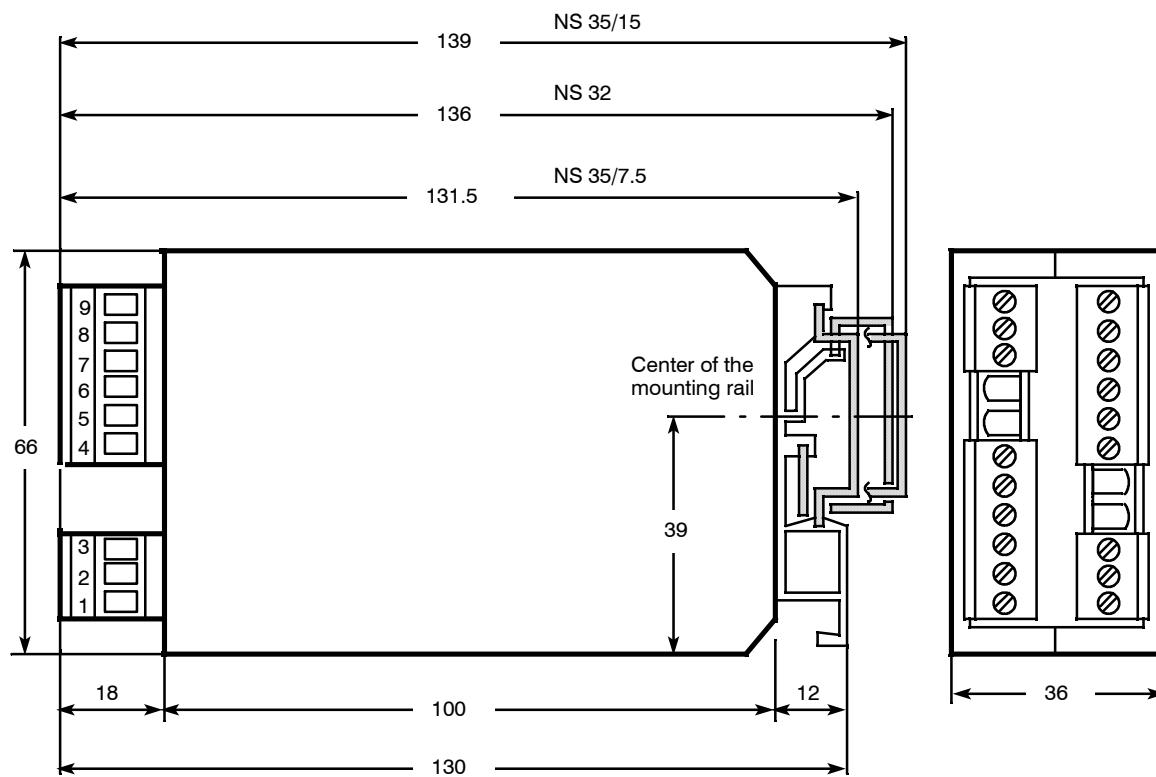

Figure 1–44 Dimensioned diagram coupling relay, dimensions in mm
- Dimensioned drawing	see figure 1–44, page 106
The SIPART DR24 is installed either in single panel cut-outs or in open tiers (see figure 1–42, page 94 and 1–43, page 94 for dimensioned drawing).